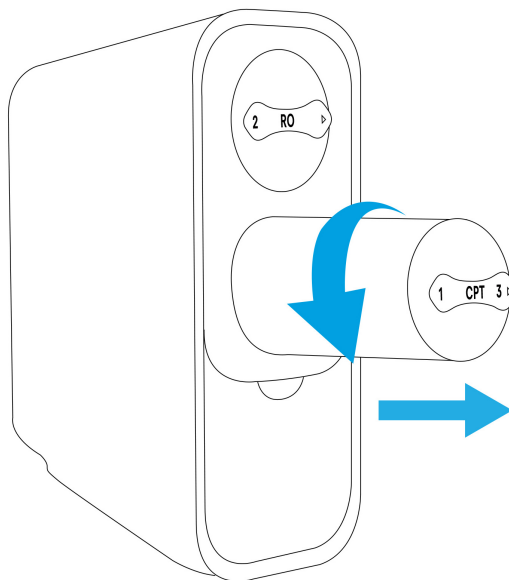

Figure 13
1. Twist the filter that needs to be replaced counterclockwise (Figure 13);